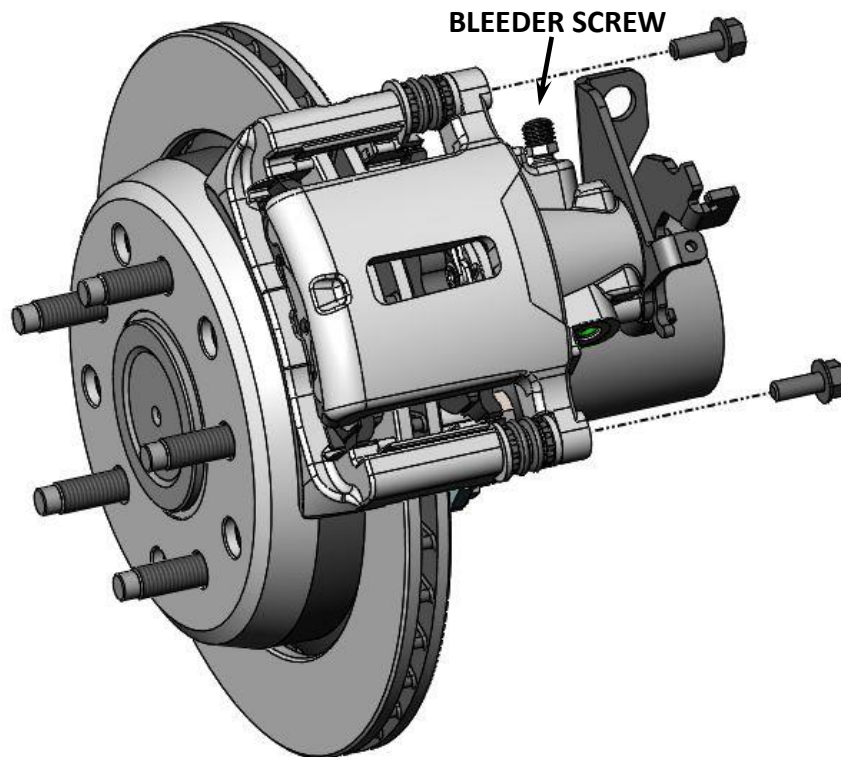

Figure 11 – Caliper Installation and Bleeder Screw Orientation
15. Once the shocks have been relocated to the Shock Relocation Brackets continue on installing the brake calipers. Slide the caliper body over the brake pads and Caliper Anchor Bracket. With the caliper in place, re-install the caliper mounting bolts between the caliper and the bracket. Torque the bolts to 30 lb/ft. **IMPORTANT:** Make sure that the bleeder screw is pointing upward. See Figure 11 below for reference on installing the caliper.